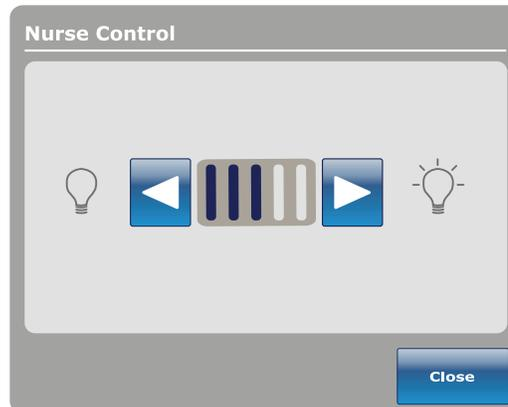

Figure 46: Nurse control LED intensity
2. Tap the left or right arrow (Figure 46 on page 55).
3. To save the LED intensity setting, tap **Close** (Figure 46 on page 55).